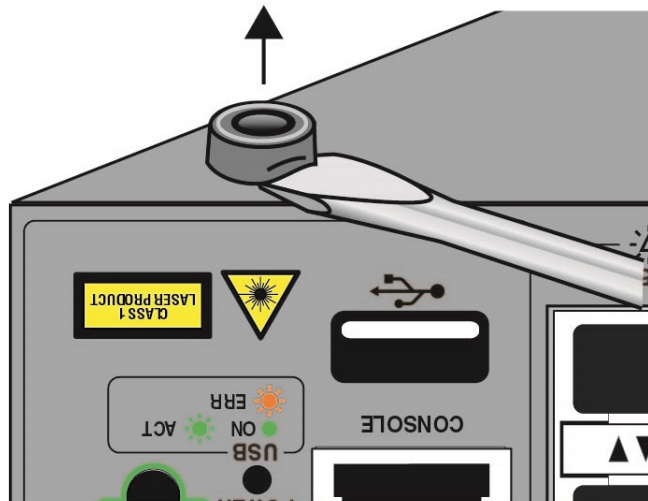

Figure 55. Removing the Bumper Feet
2. Use a small flat-head screwdriver to gently pry the feet from the bottom of the switch. Refer to Figure 55.